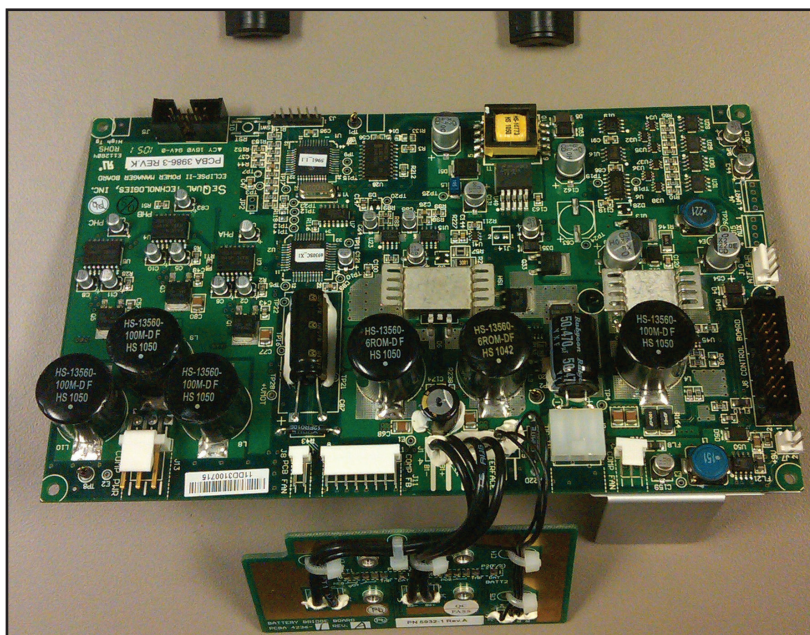

Fig 67: New Power Manager
1.7 Unbox the SP5932-1-SEQ and account for all parts (Fig 67).